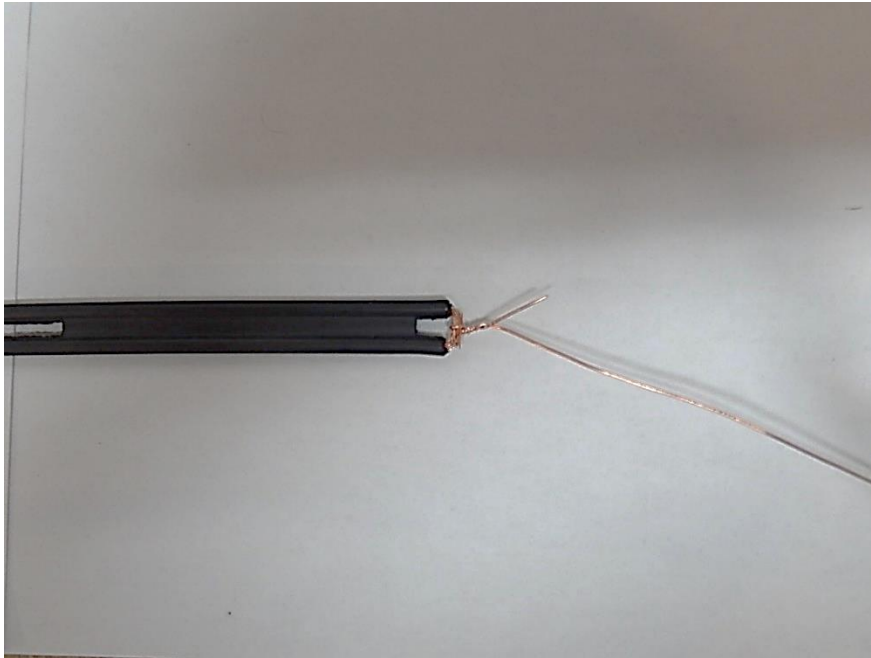

Figure 4
4. Fold over the bare wire and bind it with a short piece of the bare copper wire. Cut off any excess wire. (fig. 4)